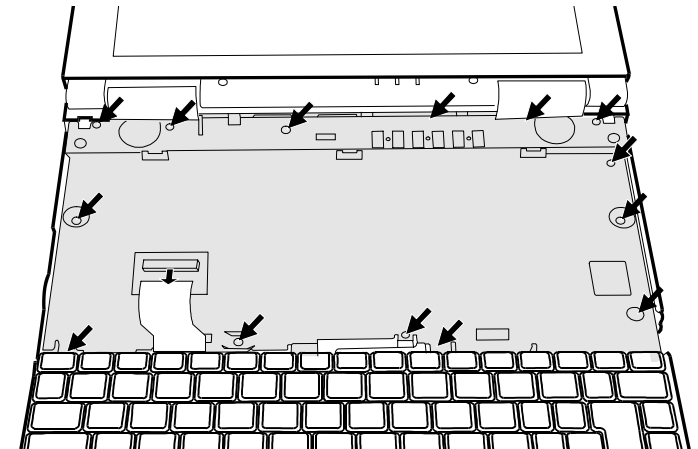

Figure 5-20. Removing the Shield Plate
4. Replace the shield plate and secure with 12 screws. (Refer to Figure 5-20 earlier.)